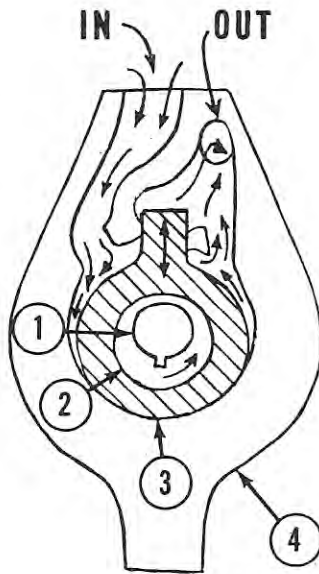

Fig. Mc5 — Schematic view of the rotor type water pump used on 3.6 horsepower models. Refer to text for details.
WATER PUMP. Motors are equipped with a rubber rotor type water pump which is mounted in the lower unit and driven by a cam on the drive shaft. Refer to Fig. Mc5. The rotor (3) oscillates in housing (4) because of the eccentric cam (2) on drive shaft (1). Rotor is prevented from turning, and water is prevented from recirculating